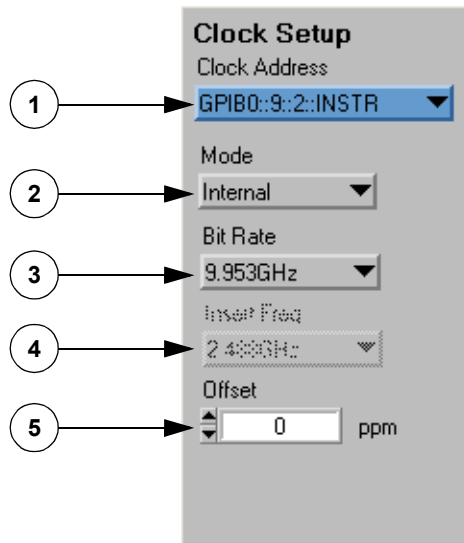

Figure 3-21. Clock Setup Area
* When changing rate, remember to also change the Bit Rate on the Clock Source, see Figure 3-21.